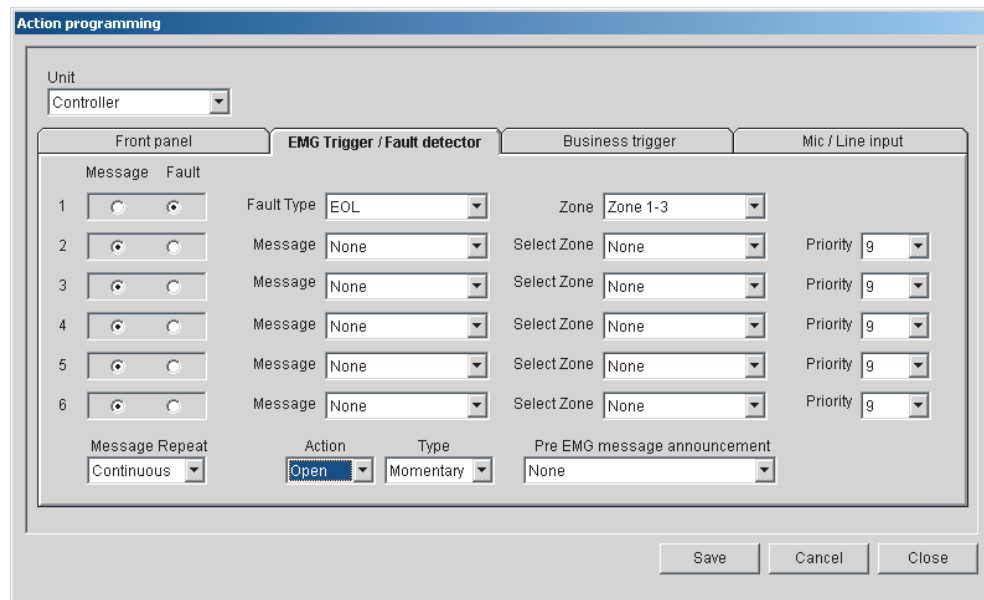

Figure 4.6 Action programming window in configuration program.
7. Set the Action to Open and Type to Momentary. See *Figure 4.6* for an example.